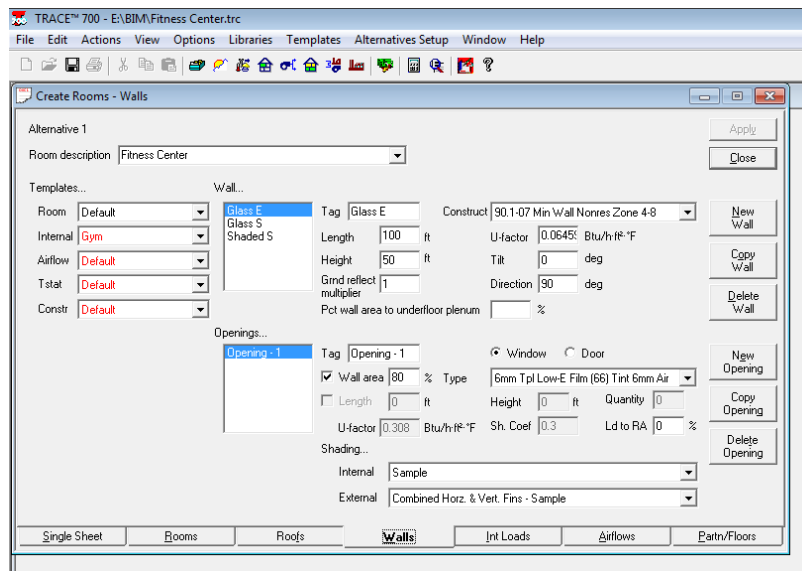

Figure 2: Trane TRACE modeling software
- Here, you can change the details of the glass façade. U-factor and Sh. Coef. are both present on this screen. Figure 2 Shows a print-screen of this part of the TRACE modeling software